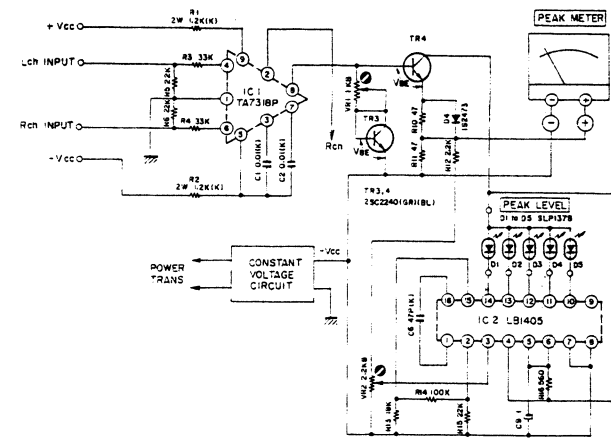

Fig. 15 Meter Amplifier and LED Drive Circuit
8) Meter Amplifier and LED Drive Circuit (Refer to Fig. 15, 16)